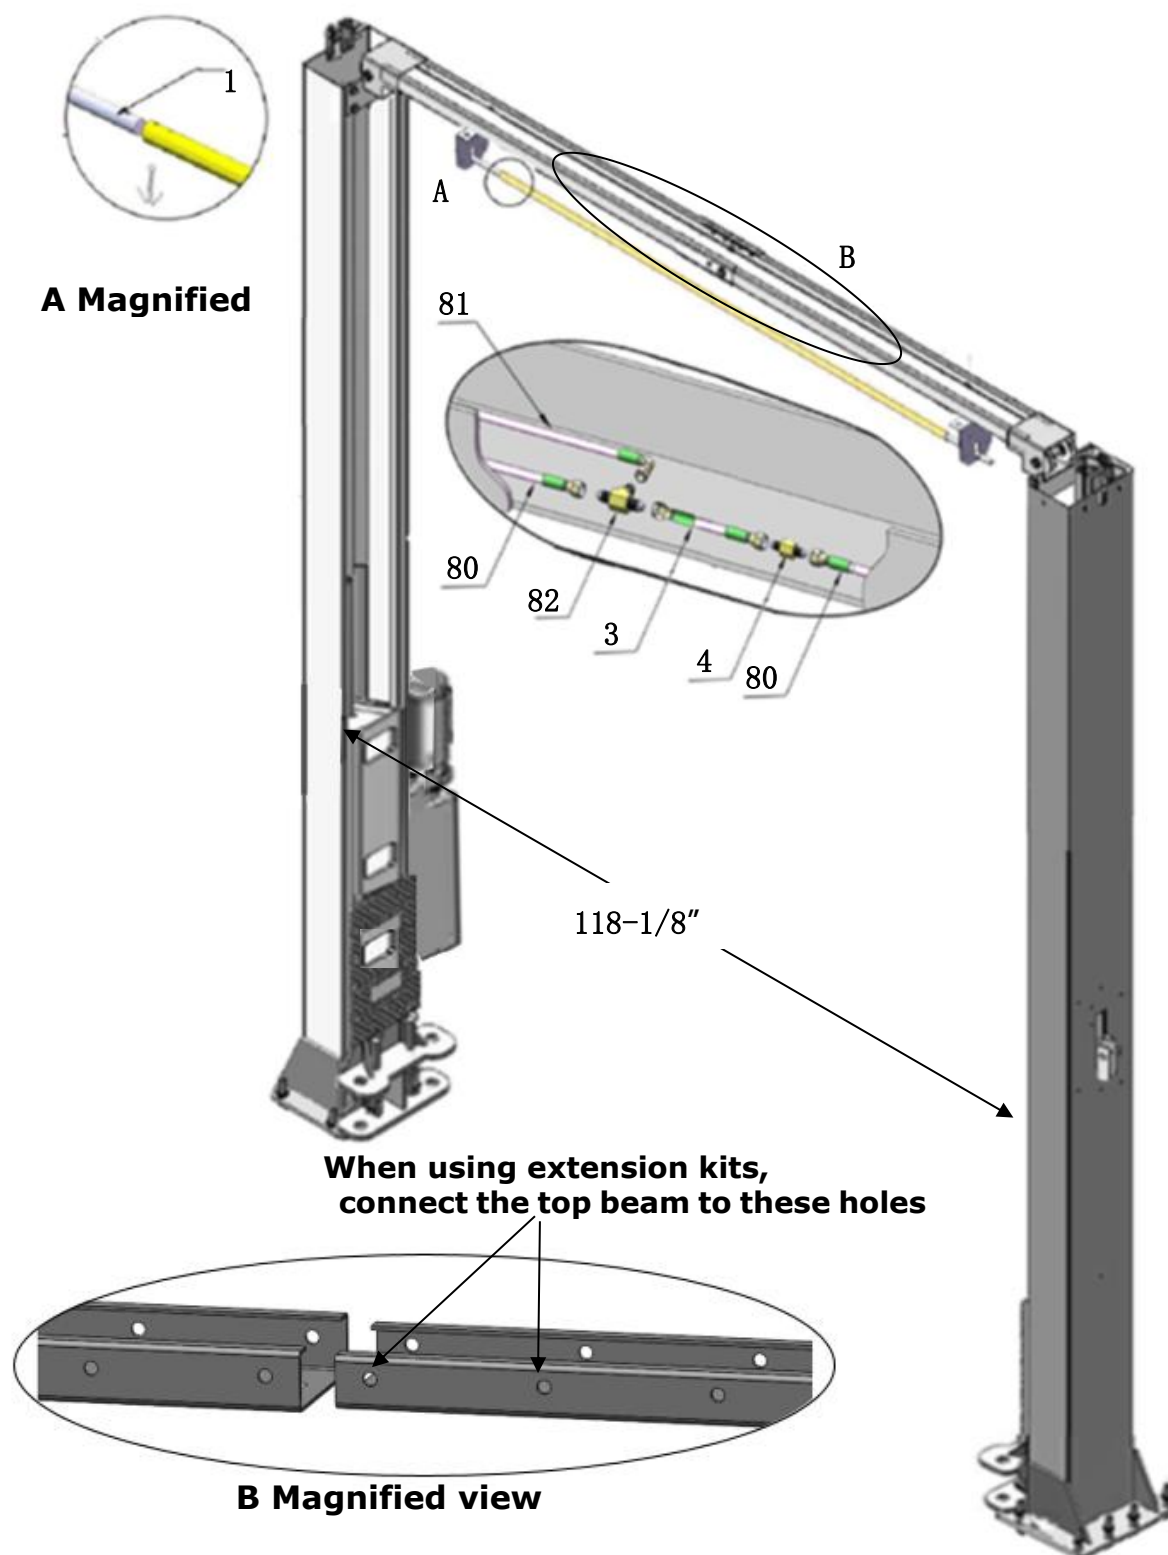

Fig.41
1.1. OHX-10: oil hose, top beam installation. (Figure 41)